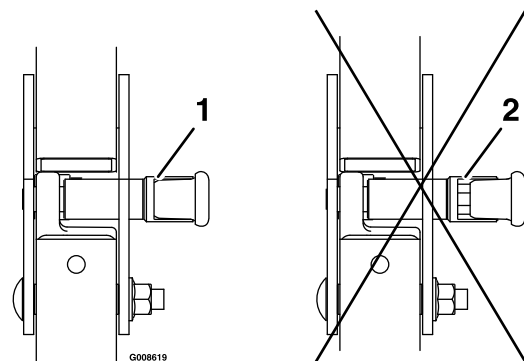

Figure 11
1. Raise the roll bar to the operating position and rotate the knobs until they move partially into the grooves (Figure 11).
2. Raise the roll bar to the full upright position while pushing on the upper roll bar so that the pins snap into position when the holes align with the pins (Figure 11).
3. Push on the roll bar and ensure that both pins are engaged (Figure 11).